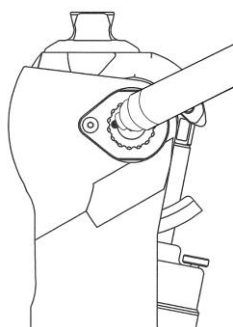

Figure 6.
- 1) As a guideline for positioning the knee axis screw, mark the knee axis screw where it touches the M3 hex set screw. (See Figure 6.)